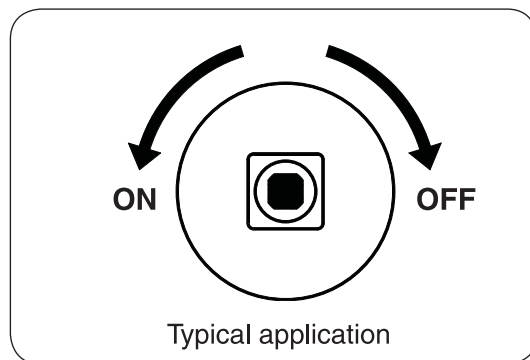

Fig. 17-2
- 4. **Once the match is burning and in position**, slowly turn the key valve counter-clockwise toward the **ON** position until it no longer rotates (see Fig. 17-2). Your burner should light.
To extinguish your gas burner, turn the key valve clockwise toward the **OFF** position until it no longer rotates (see Fig. 17-2). Be sure the key valve is turned fully off to avoid any gas leakage.